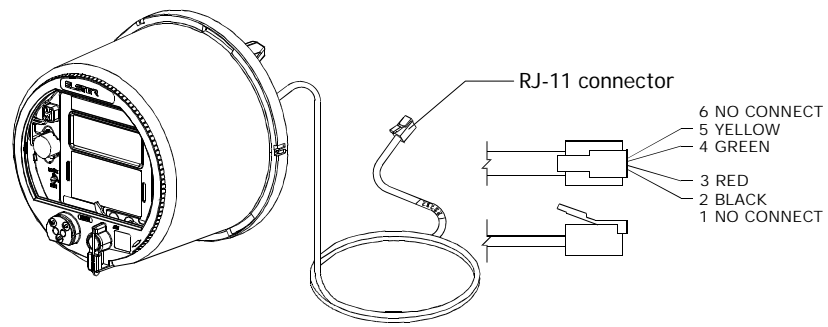

Figure 6. RJ-11 connector wiring
3. The last 4 wires should be inserted into the RJ-11 connector until they cannot be inserted any further. The color code orientation should match as illustrated in Figure 6.